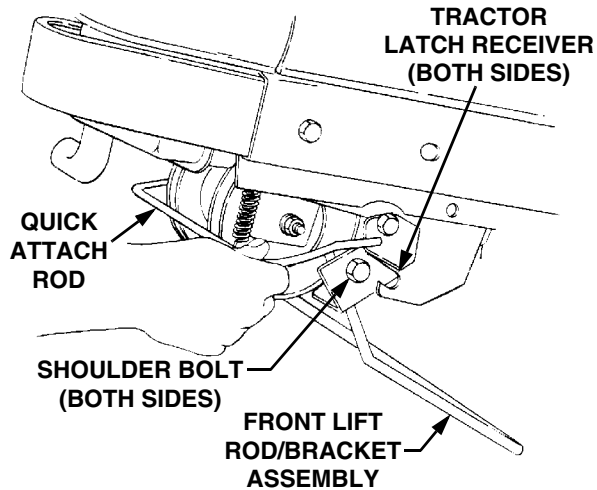

Figure 46
9. From the front of the tractor, push downward and hold the tractor quick-attach rod. Pull the front lift rod/bracket assembly forward to release the shoulder bolts on each side of the bracket from the left and right tractor latch receivers. Release the tractor quick-attach rod (See Figure 46).